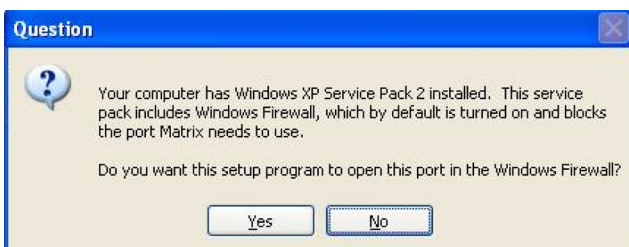

FIG. 31 Setup Path 2 - Firewall Question
9. Setup checks for Windows XP Service Pack 2 installation. If Service Pack 2 is present, the pop-up shown in FIG. 31 appears. Choose **Yes** or **No** to continue.